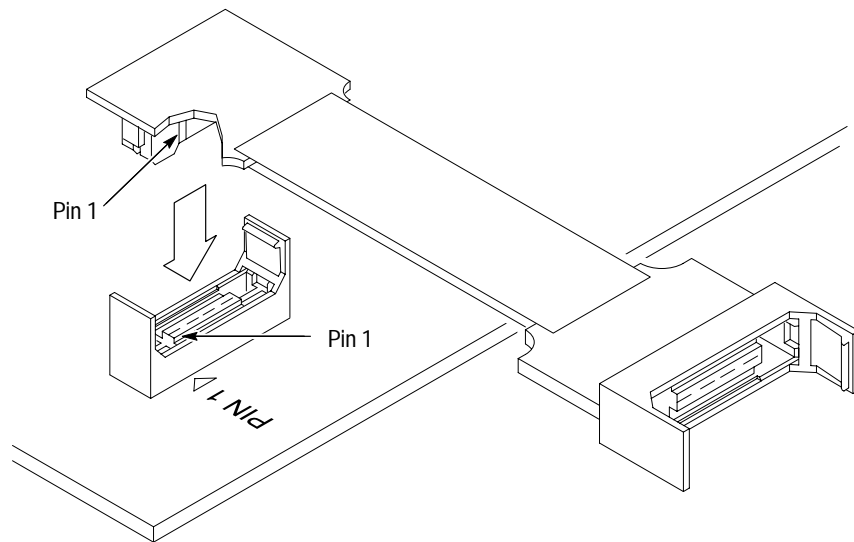

Figure 3: Connecting the Low-Profile Extender
2. Position the low-profile end perpendicular to the connector and gently connect the extender as shown in Figure 3.
NOTE. Be sure to orient pin 1 on the Mictor connector in your SUT to direct the extender off the board as shown in Figure 3.